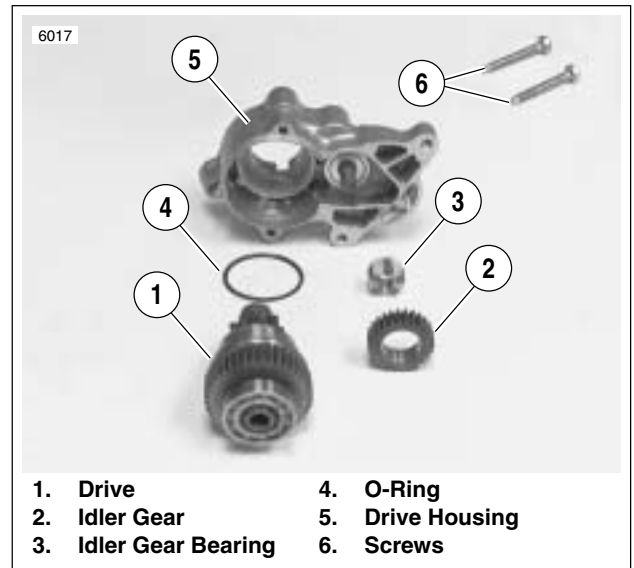

Figure 5-25. Starter Drive Assembly
15. See Figure 5-25. Remove two drive housing mounting screws (6). Remove drive housing (5) from solenoid housing.
16. Remove drive (1), idler gear (2), idler gear bearing (3), and O-ring (4) from drive housing (O-ring is located in drive housing groove).
1. See Figure 5-25. Clean, inspect and lubricate drive assembly components. Lubricate parts with high temperature grease, such as LUBRIPLATE 110.